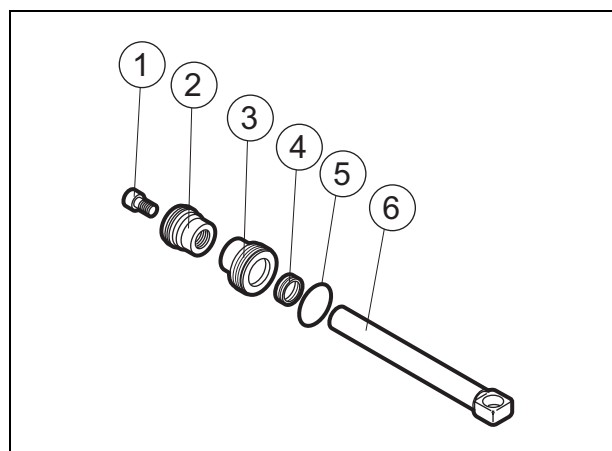
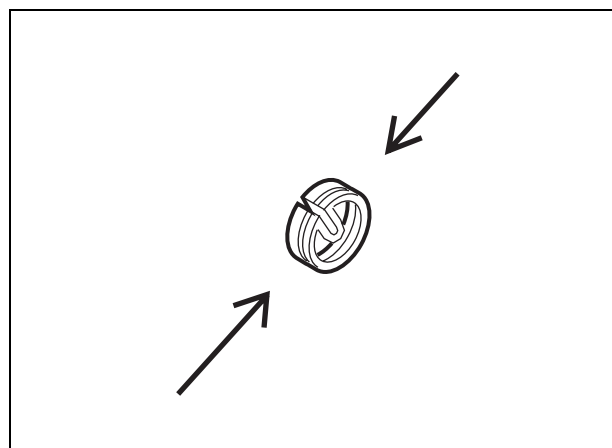

Fig. 49 Piston rod seals
Fig. 50 Compressing piston rod seal
1. Remove the piston (2) from piston rod (6) by loosening the bolt (1). $W=14$ mm. *See Fig. 49.*
2. Assemble the piston rod seals. *See Fig. 49.*
- 1 The piston rod seal (4) is made of two parts. Separate the yellow and brown seals.
- 2 Compress the "yellow" seal. *See Fig. 50.*
- 3 Assemble the yellow seal in the head (3) by hand or by using a blunt tool.
- 5 Replace the O-ring (5).